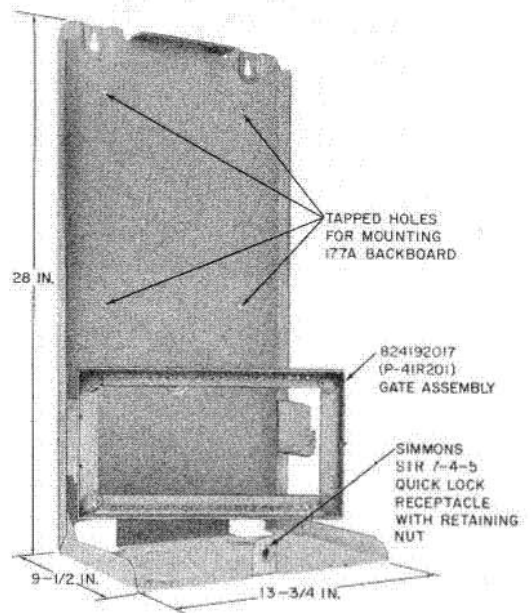

Fig. 28—Floor Stand per ED-69462-50, Group 1
6.01 The floor stand per ED-69462-50, Group 1 (Fig. 28) is a steel floor stand designed to hold a 177A backboard or equivalent. An auxiliary gate is included for mounting a J86731D, List 1 power plant (or physical equivalent). The floor stand may be wall mounted, if desired, by means of slotted holes provided for the purpose.